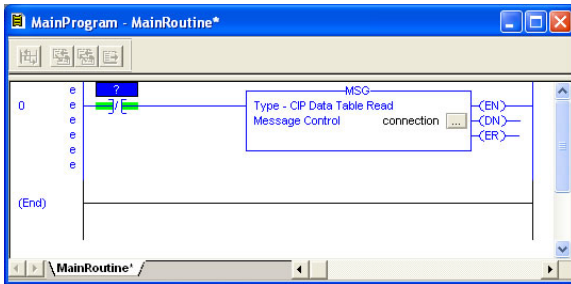

Figure 108: MainRoutine
- e) Click "OK" to close the MSG Configuration dialog. At this stage, MainRoutine should look like Figure 108.